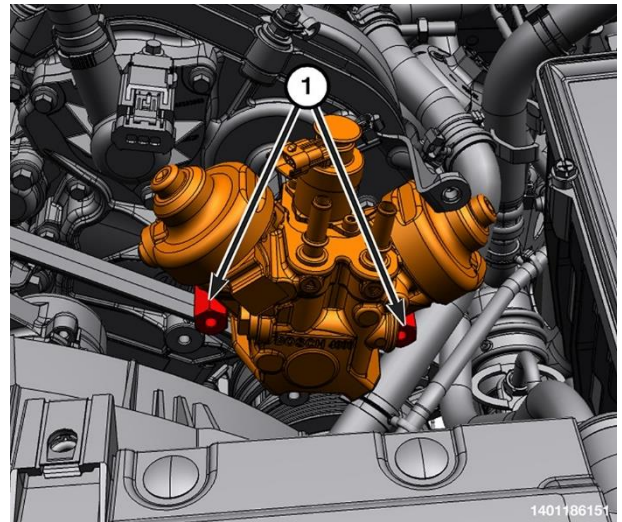

Figure 137 – HPFP Upper Bolts
- 76. Remove the upper bolts (1) from the high-pressure pump (Figure 137).